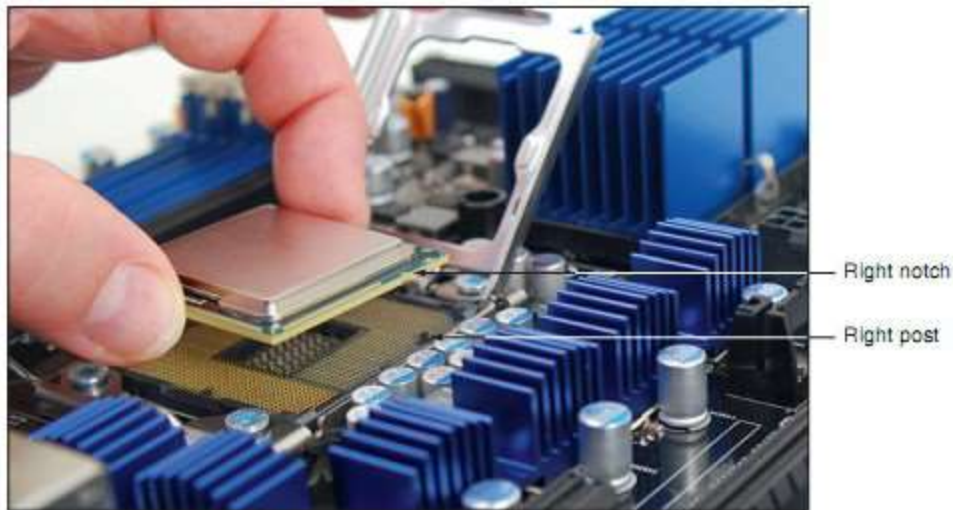

Figure 8
- Hold the processor with your index finger and thumb and orient the processor so that the notches on the two edges of the processor line up with the two posts on the socket (See Figure 8).